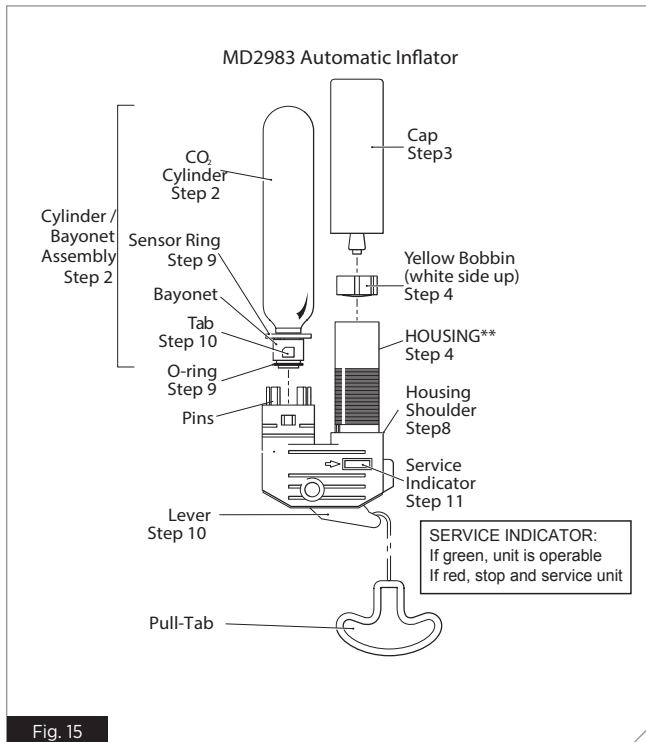

Fig. 15
1. Unpack or open the Inflatable PFD so that the inflator is exposed (Fig. 15).
3. Remove cap by turning counter-clockwise. (Fig. 15).
6. Inspect the bobbin. If the bobbin has been fired or damaged, replace it! To ensure the new bobbin is valid, it must have been purchased within the last three (3) years. If the bobbin purchase date is unknown, check the date printed on the bobbin and replace if older than three (3) years (see "Re-arming Your Automatic PFD (MD2983)" on p. 16).
7. **IMPORTANT!** Bobbin (yellow) must be installed into the HOUSING (\*\*see figure 15), white side up, aligning the slots on the bobbin with the ridges inside the threaded housing. The bobbin will slide in easily if installed correctly.
9. Check the new cylinder/bayonet assembly to ensure the o-ring is in place and the sensor ring is attached (Figs. 15 and 16). Ensure that the CO2 cylinder has not been pierced (Fig. 16).
11. Examine the service indicator (Fig. 15) and ensure it is **GREEN**. If the service indicator is red, the mechanism has been fired or is incorrectly fitted and the inflator requires service. (see "Re-arming Your Automatic PFD (MD2983)" on p. 16).
To check the manual inflation system (with CO2 cylinder/bayonet assembly removed); determine that the CO2 cylinder piercing pin moves freely when pushing up on the lever arm by pushing down on the pins and releasing the pins followed by the lever arm (for MD2981 see Fig. 14 and for MD2983 see Fig. 15). Repeat this several times to check the manual inflation system.